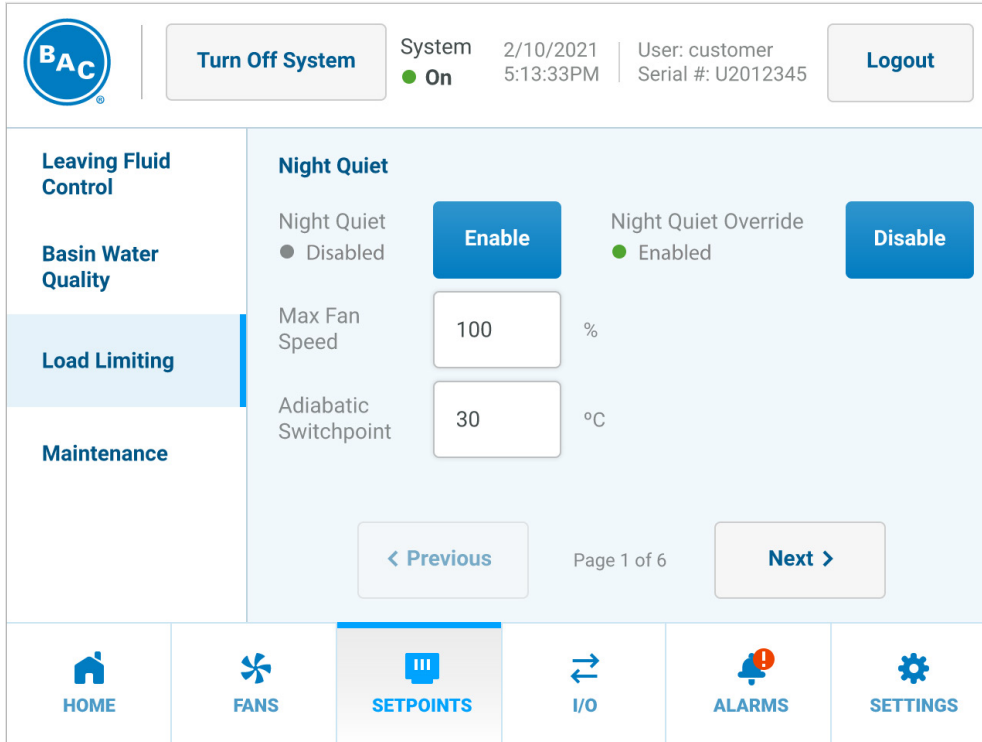

Figure 132. Setpoints Menu, Load Limiting Page 1 of 6
- Night Quiet load limiting mode shown in **Figure 132** and **Figure 133** with parameters listed in **Table 89**.